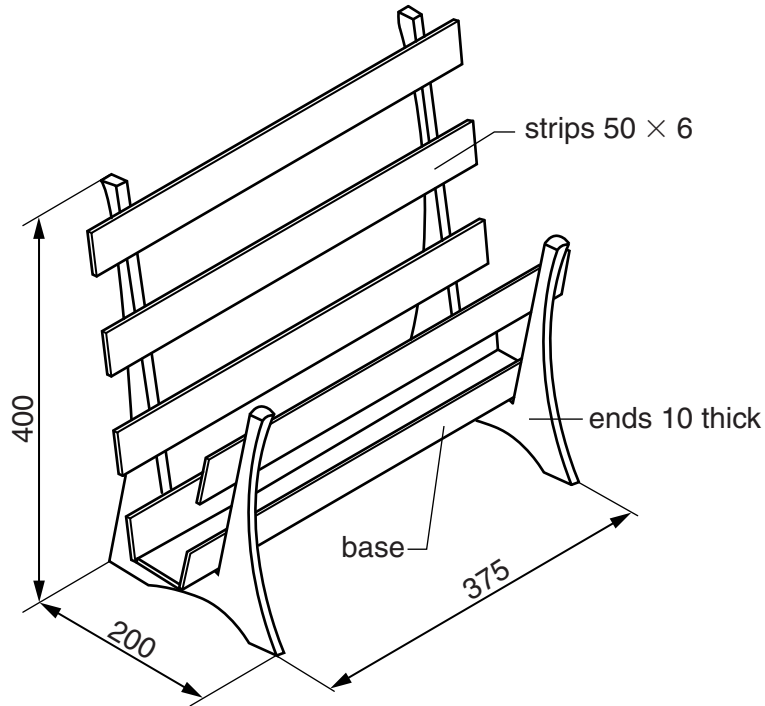

Fig. 10
13 Fig. 10 shows a magazine rack made from acrylic.
- (e) (i) Many magazine racks are made from wood. Use sketches and notes to show how the magazine rack shown in Fig. 10 could be redesigned using wood. Include the specific names of the wood used and methods of construction.